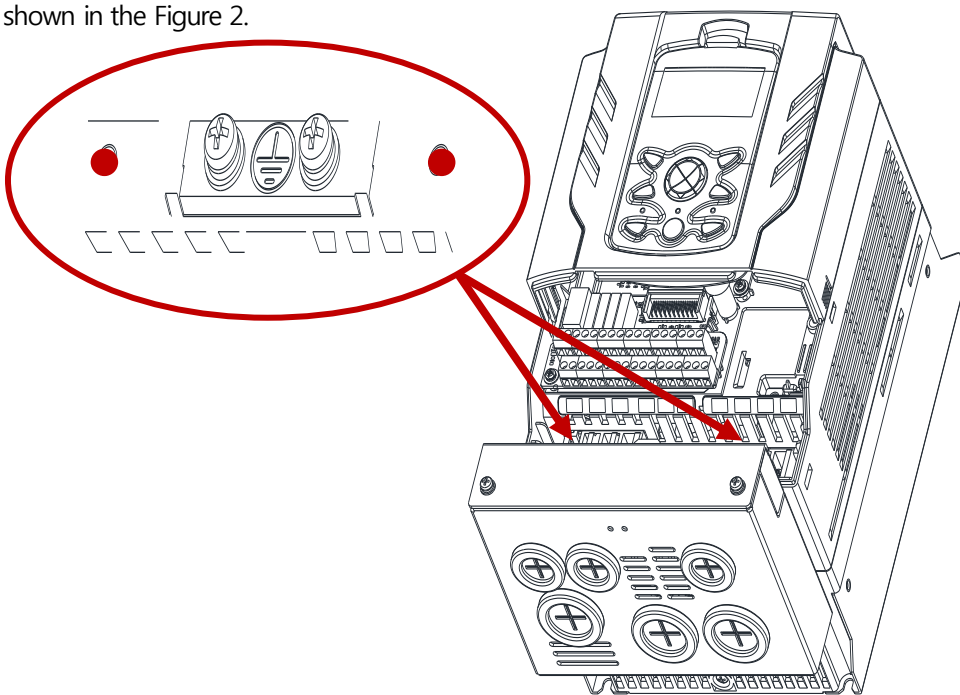

Figure 2. Install
- ② Fasten the Conduit Option to fit on the side of ground terminals of the product using the prescribed bolt as shown in the Figure 2.